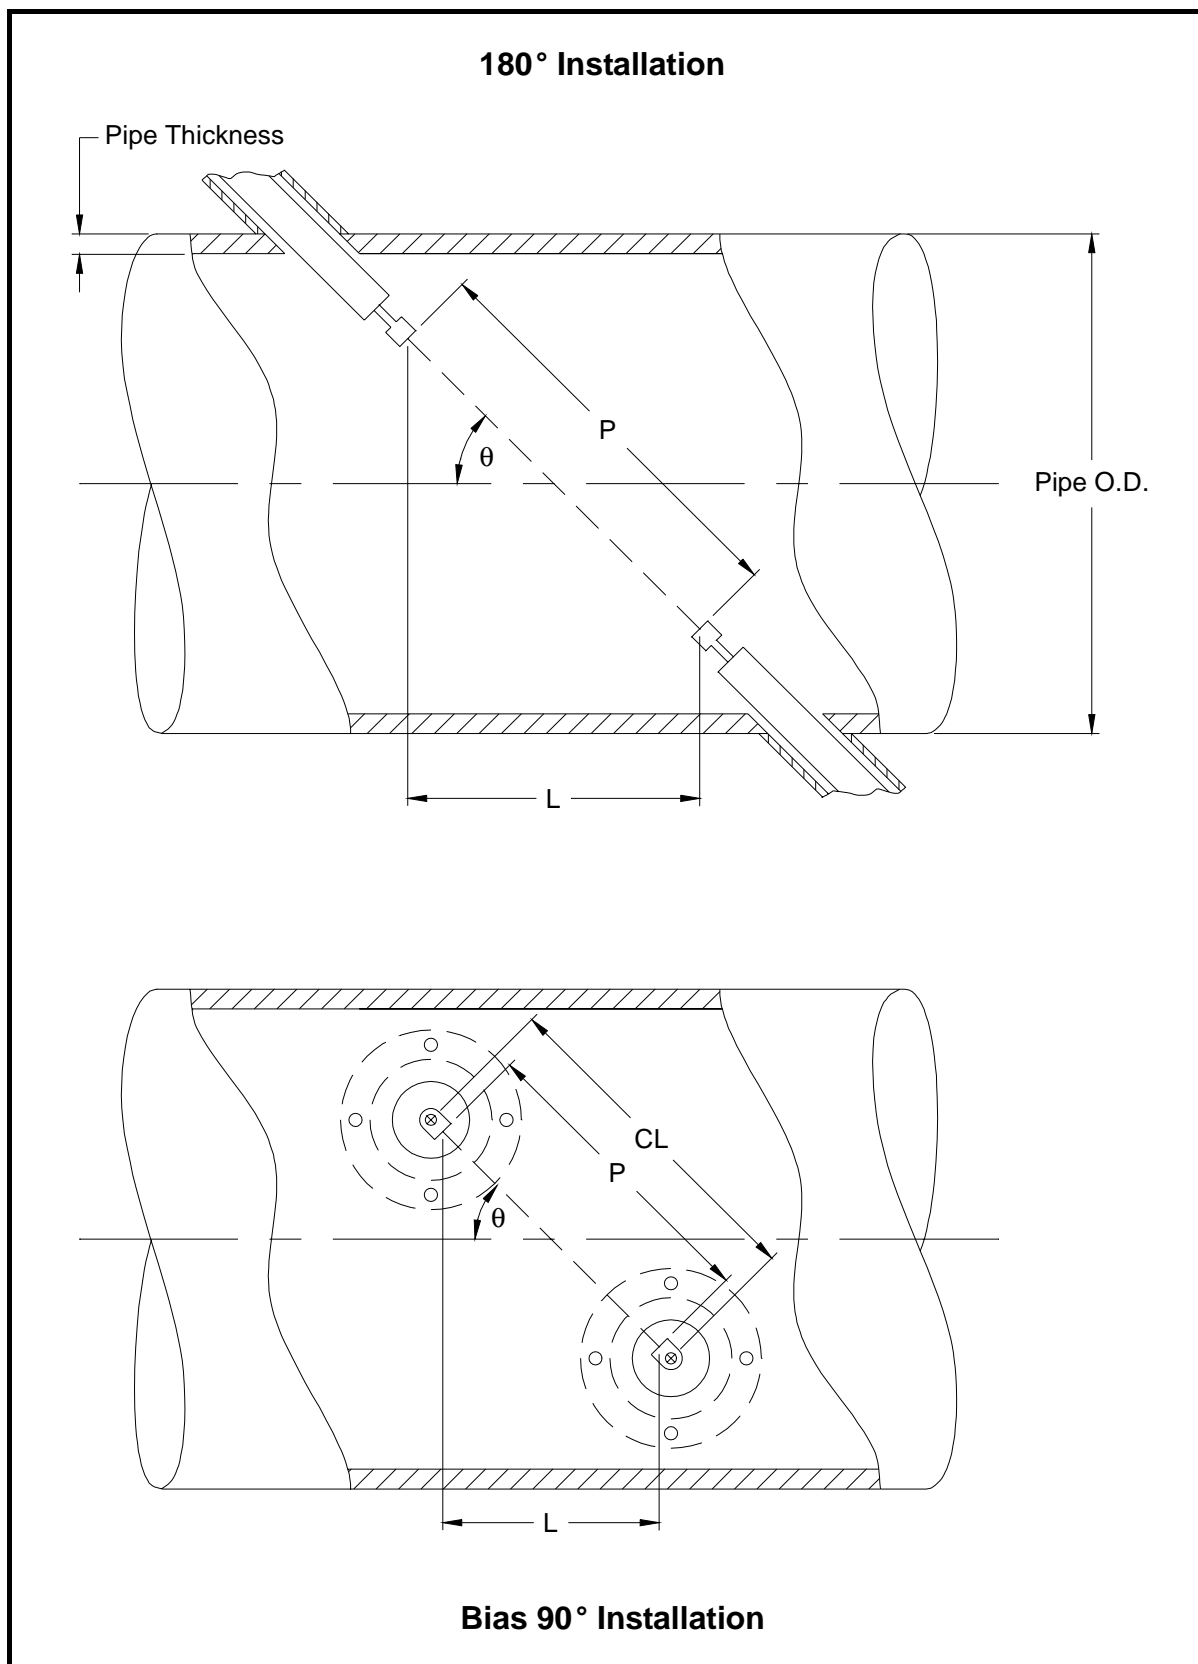

Figure C-1: Top View of Typical Transducer Installations
The accuracy of the programmed P and L values is critical to precise flow rate measurements. If Panametrics supplies the flowcell for the system, the correct values will be included in the documentation supplied with the system. For transducers installed on an existing pipe (see Figure C-1 on page C-2), P and L must be measured at the site. This appendix provides instructions for properly determining these dimensions.
Whenever possible, physically measure the face-to-face distance (P) and the axial distance (L) between the centers of the flat faces of the transducers. Refer to Figure C-1 on page C-2 for an illustration of the proper distances to measure, in a typical installation.
With a Bias 90° transducer installation, it sometimes happens that the only known parameters are the transducer angle (θ) and the centerline distance between the transducer bodies (CL). In these cases, it is still possible to calculate P and L by combining Equation C-1 above with the additional Equation C-2 below (see Figure C-1 on page C-2):